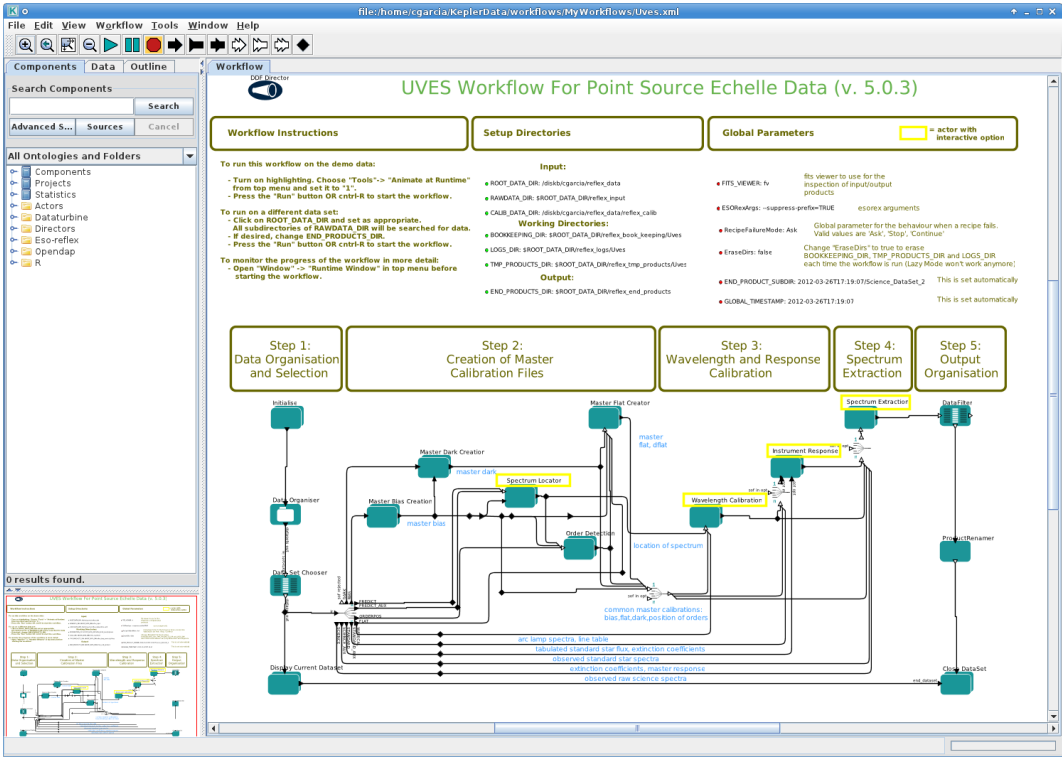

Figure 4.0.2: *UVES workflow general layout.*
2. Now open the UVES workflow by clicking on File -> Open, selecting the file `uves-5.0.3/Uves.xml` in the file browser, and clicking Open (this file is located in `<install_dir>/share/reflex/workflows/uves-5.0.3/Uves.xml` in the pipeline installation). You will be presented with the workflow canvas shown in Figure 4.0.2. Note that the workflow will appear as a canvas in a new window.
The UVES workflow canvas is organised into a number of areas (see Figure 4.0.2). From top-left to top-right you will find general workflow instructions, directory parameters, and global parameters. In the middle row you will find five green boxes describing the workflow general processing steps in order from left to right, and below this the workflow actors themselves are organised as per the workflow general steps.
The workflow canvas displays a number of parameters that may be set by the user (see Figure 4.0.2). Under “Setup Directories” the user is only required to set the `ROOT_DATA_DIR` to the working directory for the DataSet(s) to be reduced, which, by default, is set to the directory containing the demo data. Raw data should be stored in a subdirectory of `ROOT_DATA_DIR`, defined by the parameter `RAWDATA_DIR`, which is recursively scanned by the `Data Organiser` actor for input raw data. The directory `CALIB_DATA_DIR`, which is within the pipeline installation directory, is also scanned by the `Data Organiser` actor to find any static calibrations that may be missing in your DataSet(s). If required, the user may edit the directories `BOOKKEEPING_DIR`, `LOGS_DIR`, `TMP_PRODUCTS_DIR`, and `END_PRODUCTS_DIR`, which correspond to the directories where book-keeping files, logs, temporary products and end products are stored, respectively (see the Reflex User Manual for further details; Forchì 2012).